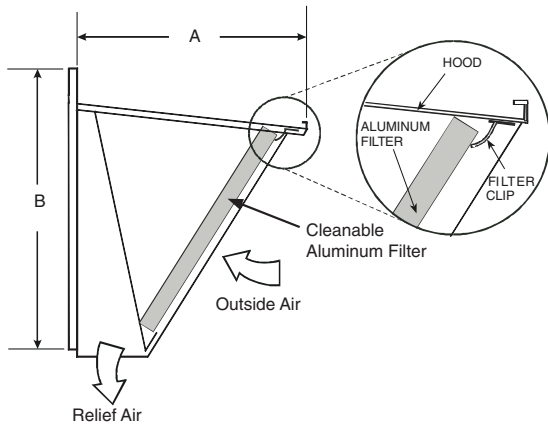

Fig. 18 — EconoMi\$erX Hood Detail
28. Install the filter by opening the filter clips which are located underneath the hood top. Insert the aluminum filter into the bottom filter rack (hood divider). Push the filter into position past the open filter clips. Close the filter clips to lock the filter into place. (See Fig. 18.)